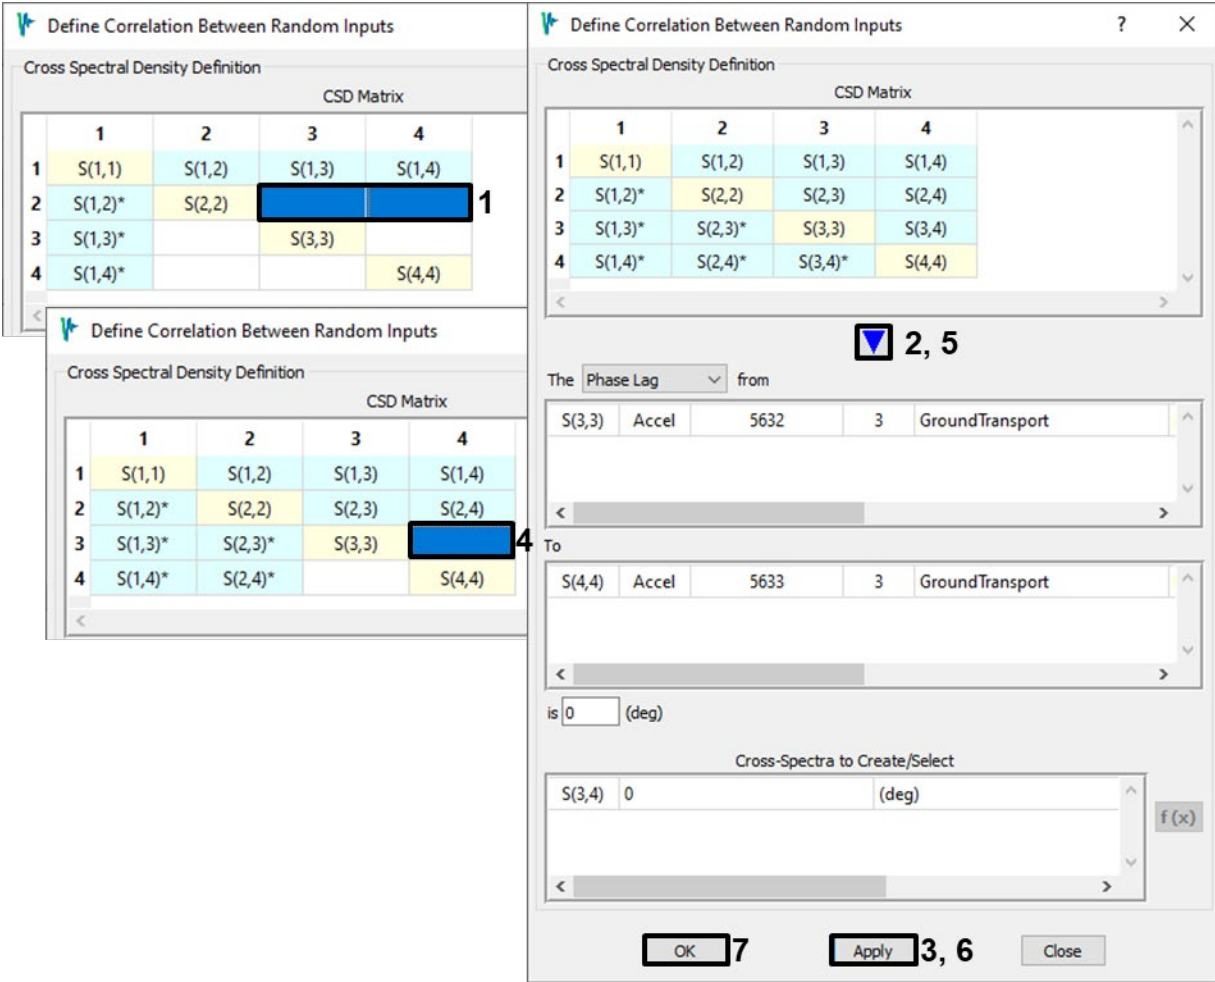

Figure 4-61. Finish defining 0-degree phase shift correlations among all the input PSDs.
**lag** field is set to 0 degrees. When you click the **Apply** button, the defined CSDs are created and the *CSD Matrix* table is updated. Continue selecting rows, clicking the  button, and clicking **Apply** until the entire matrix is filled (Figure 4-61). When you click **OK** to close the CSD dialog, the CSDs appear as additional excitations on the *Excitations* tab (Figure 4-62). The new event is now ready to solve.